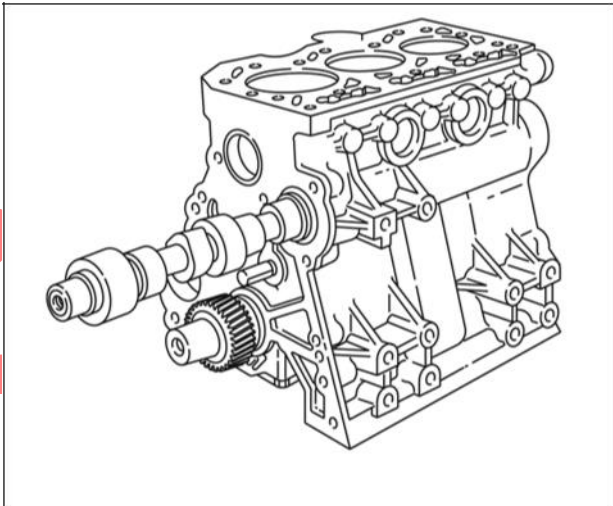

Figure 4
- 7. Remove camshaft (Figure 4).